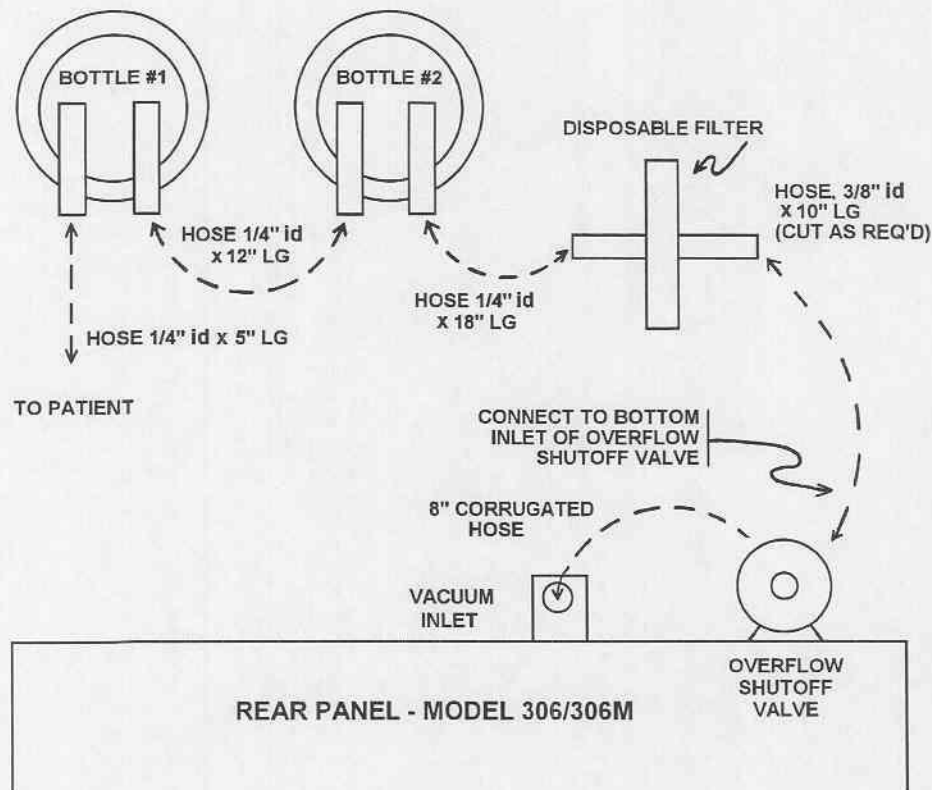

Figure 2-2. Hose interconnection.
- (3) Align the base of the suction apparatus with the cart assembly. Place spacers in mounting bracket channel and tighten securely with 10-32 screws.
(4) Casters with wheel locks prevent wheels from turning; they do not lock the swivel mechanism. Depress red button to lock wheel. Lift to release.
*b. Interconnections (fig 2-2).*